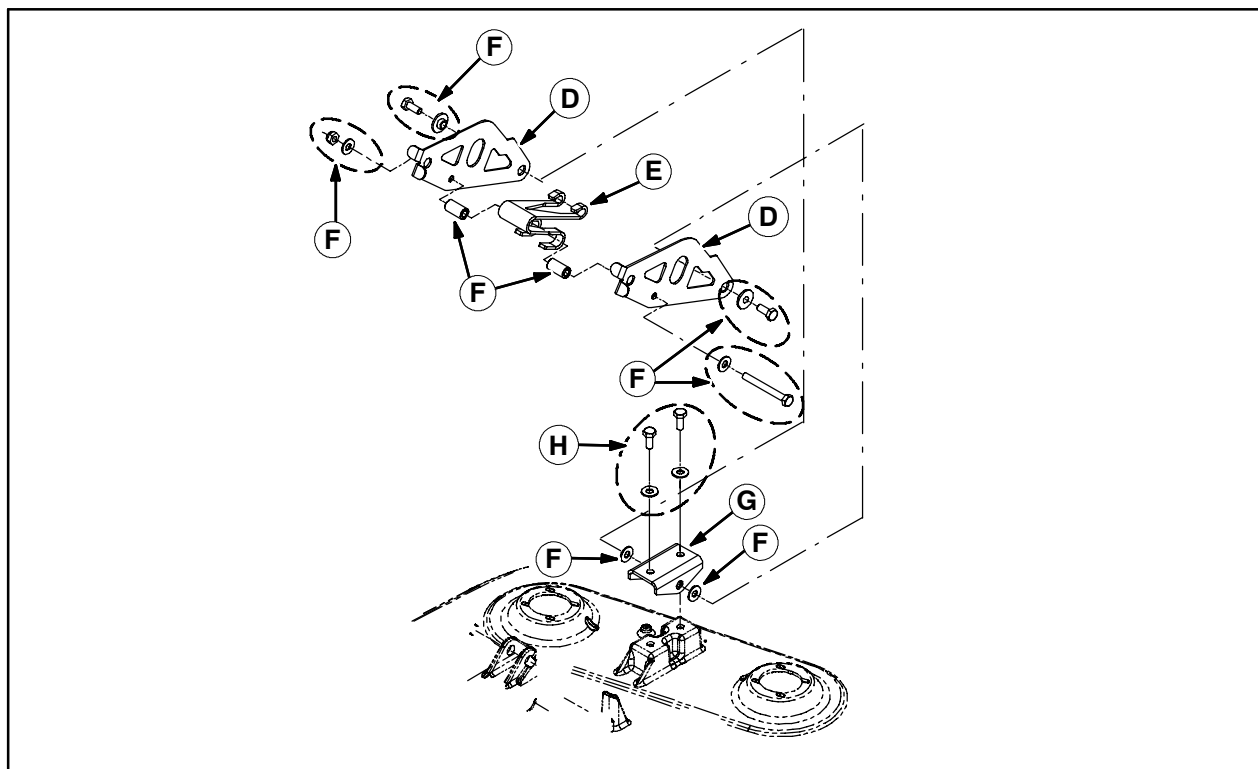

FIG. 3
11. Remove the center arm plates (D) and the scrub head lift spring (E) from the scrub head. Set center arm plates, scrub head lift spring, and all hardware (F) aside. Refer to Fig. 3.
12. Remove the lift bracket (G) from the scrub head. Set the lift bracket and hardware (H) aside. Refer to Fig. 3.
1. Use the saved hardware (H) to install the lift bracket (G) onto the new scrub head (1). Refer to Fig. 3.
3. Use the saved hardware (F) to install the center arm plates (D) and scrub head lift spring (E) onto the scrub head (1). Refer to Fig. 3.